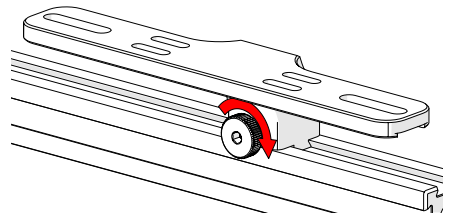

Fig. 186 - Tighten knob
2. Tighten the knob to lock preamp bracket in place (Fig. 186).